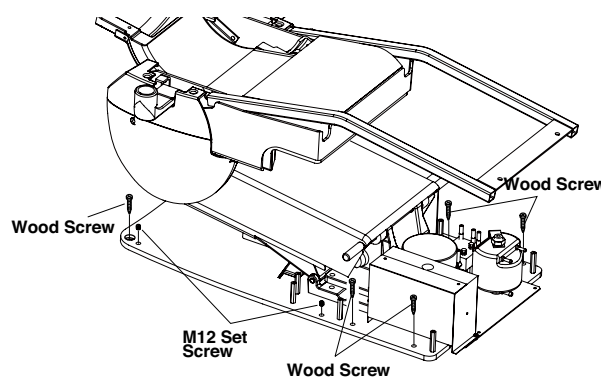

Fig.6-25b Fixing Base on Floor
(2) Fixing the Base to the Floor
- After checking the chair position, fix the base on the floor with 6 x wood screws. **(Fig.6-25b)**
- Fit 4 x M12 set screws (Level adjuster screws) in to the base plate. The chair level can be adjusted with the leveling screws. **(Fig.6-25b)**